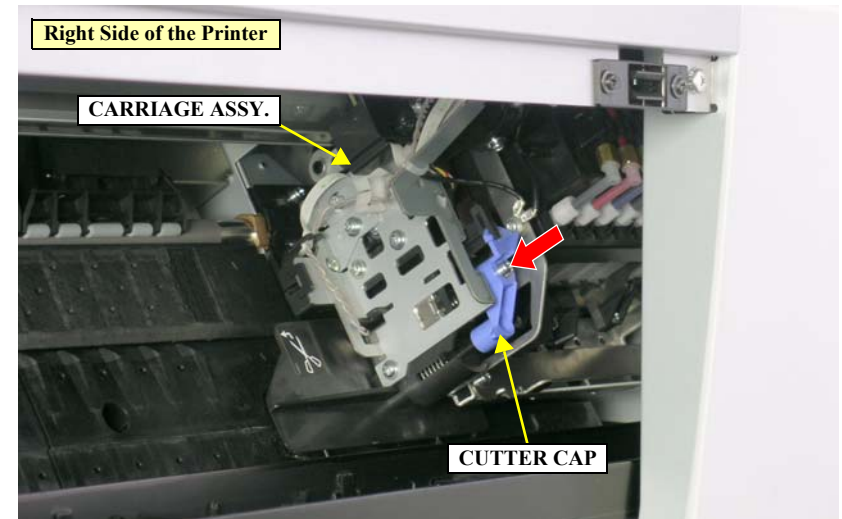

Figure 4-4. Unlocking the CARRIAGE ASSY.
2. Press the CUTTER CAP and unlock the CARRIAGE ASSY. *See Figure 4-4.*